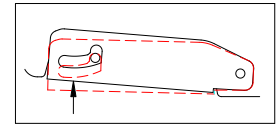

Fig. 7
- > Depress the lock mechanism. It should move downward easily and spring back to its original position without binding or sticking (Fig. 7).